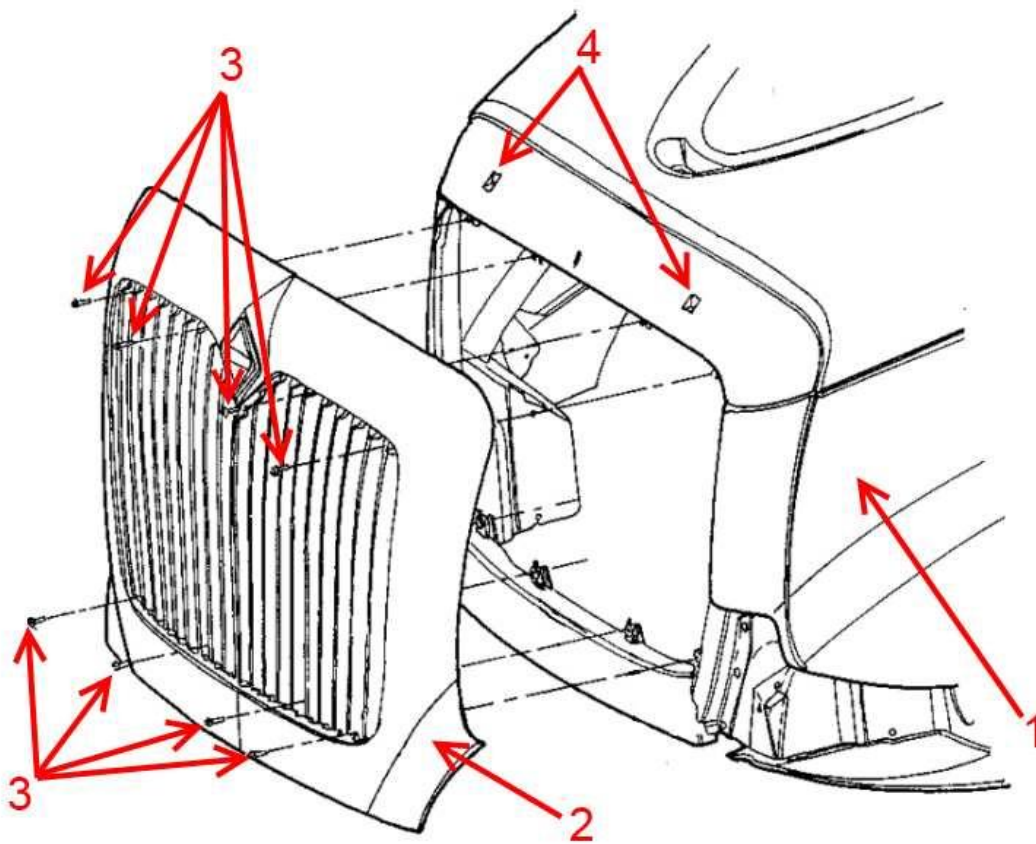

Figure 31: Front Grille Assembly
- i. Secure using the eight grille mounting screws (**Figure 31**, Item 3).